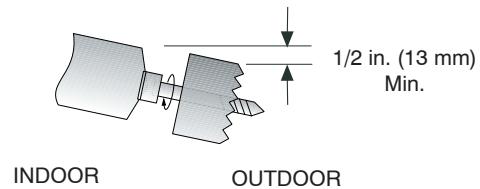

**Fig. 8 – Refrigerant Line Routing**
The refrigerant lines may be routed in any of the four directions shown in Fig. 8 (a) and (b).
1. Use a small saw blade to carefully remove the corresponding plastic covering on side panel and drill the appropriate size hole where the pipe is going through the wall. See Fig. 8(c).